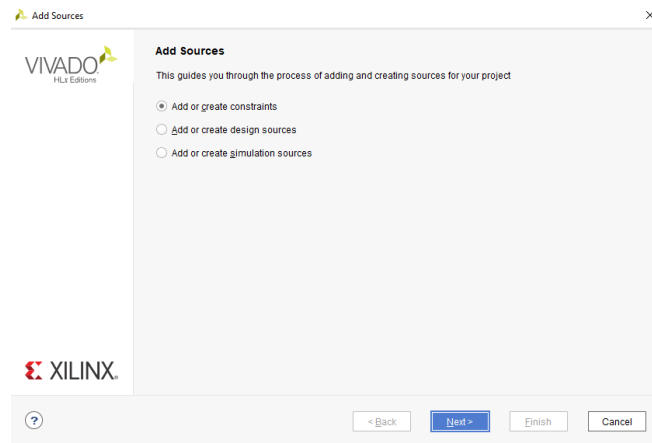

Figure 7: Add Sources Dialog Box
1. Under the "Flow Navigator" pane, click "Add Sources". This will open the "Add Sources" dialog box shown in Fig. 7. In the dialog box, select "Add or create constraints" and click "Next".
1. To create a source file, click the "Add Sources" under the "Flow Navigator" pane. This will open the "Add Sources" dialog box (see Fig. 7). Select "Add or create design sources" and click "Next".